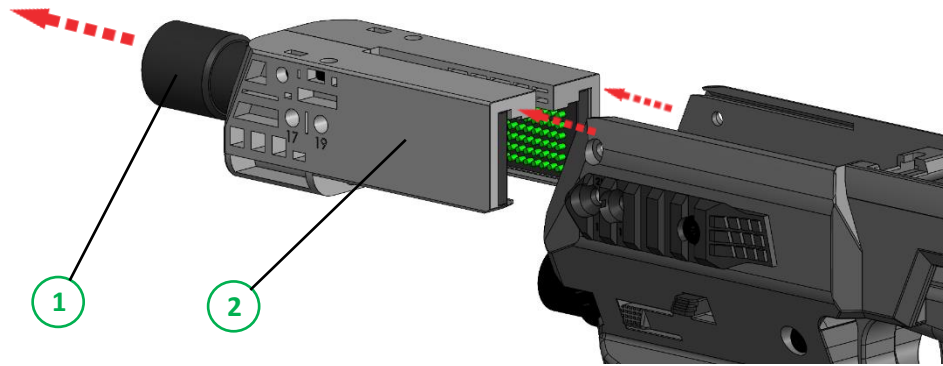

FIGURE 69
Pull out the front aluminum tube (1) with the housing (2) on (FIGURE 69) (Be sure to keep it upright to avoid losing the captive nuts inside the front aluminum tube housing).